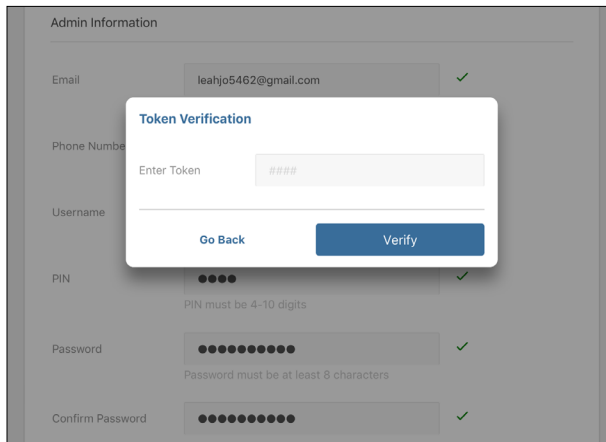

Figure 11 Token Verification screen
The new company SKALA account is created and the initial AQUALAB 3 is registered (Figure 8 through Figure 11).
A Token Verification dialog window will appear (Figure 11).
9. Enter the received Token Verification code in the Enter Token field (Figure 11).
10. Select the **Verify** button (Figure 11).